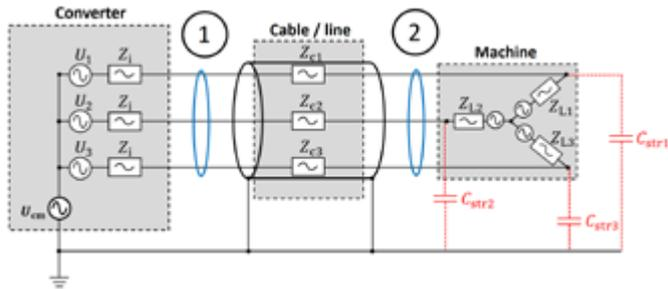

Figure 3: Measurement of CM current using Rogowski coils (blue) either at the converter output ① or at the machine input ②
The CM current can be easily and accurately measured on site using handheld oscilloscopes like the R&S RTH1004 in combination with high-bandwidth Rogowski coils [7]. Here, the CM current can directly be measured by closing the Rogowski coil around all three phases, as shown in Figure 2. We note that it is crucially important for a valid measurement to exclude the cable screen from the measurement, as shielding currents will otherwise influence the measurement. As schematically shown in Figure 3, this can usually simply be realized directly at the converter output ① or at the machine input ②.